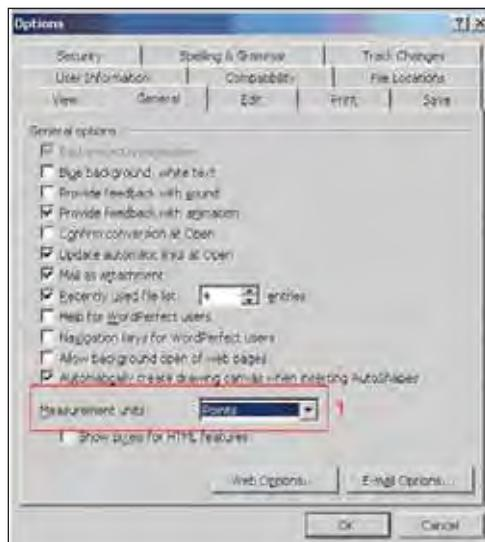

Fig. 1
2. Because Excel uses pixel measurement instead of inches, you will want to set this to match in Word. Go to **Tools >>> Options** to bring up the property sheet for Word. Click on the **General** tab, and locate the option to change the unit of measure. **See Fig. 1.** Change it to **Points** as this is the same as pixel.
See Fig. 1.